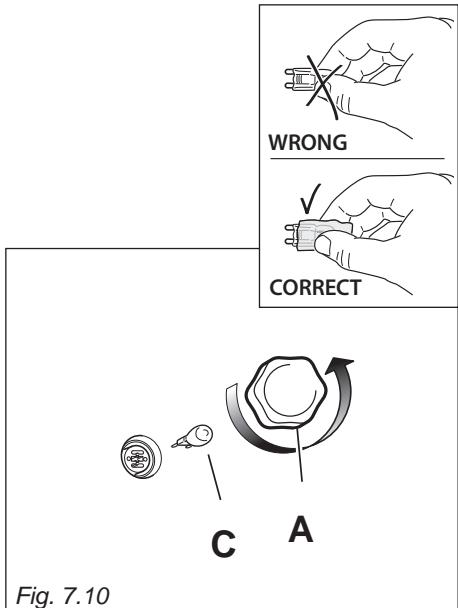

Fig. 7.10
- Remove the protective cover "A" (fig. 7.10).